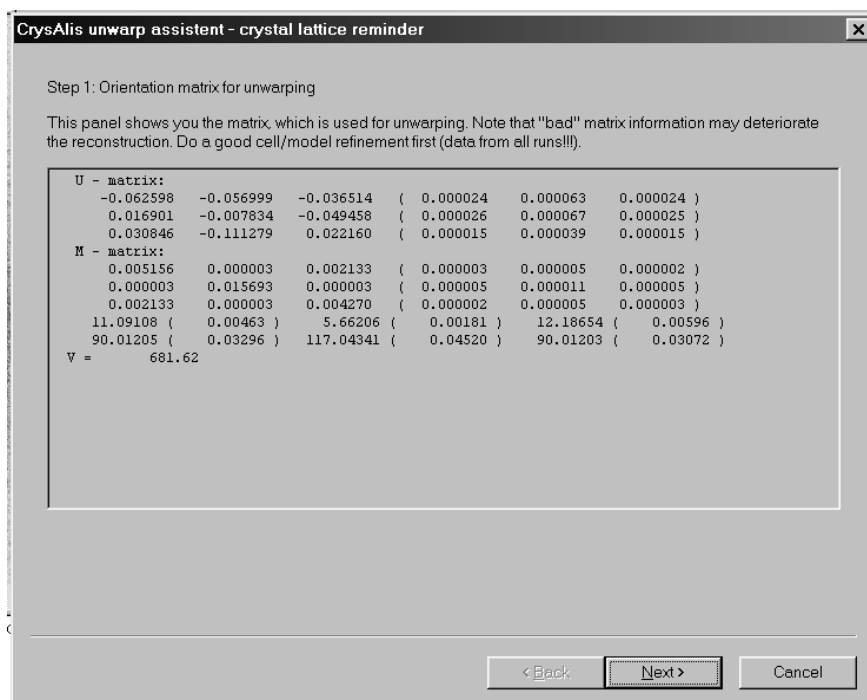

Figure 6.5.52 Screenshot of Unwarp Wizard – Step 1: Orientation matrix
2. Figure 6.5.52 shows Step 1 in the unwarp wizard. The current orientation matrix is loaded. Click on the **Next** button to proceed to Step 2.